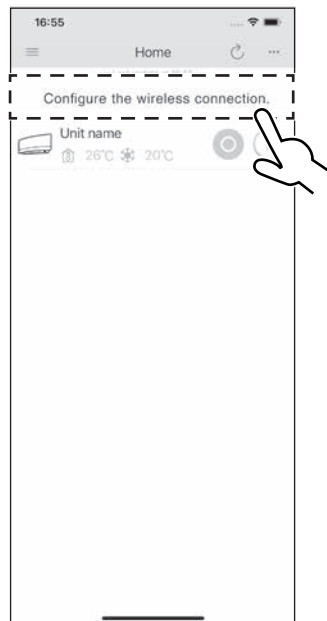

Fig. 2
2. Open the DAIKIN Mobile Controller application and select “Configure the wireless connection” (Fig. 2) and connect to your home network as per the on-screen instructions.